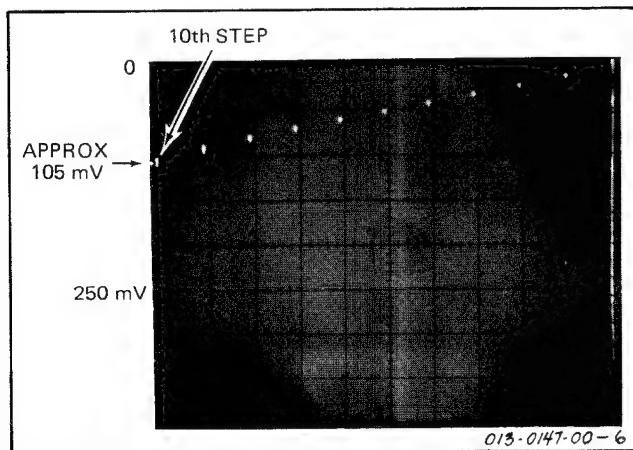

Fig. 5-1. Illustration of step 6, part f.
f. CHECK—Last spot on left (right for Negative Test Unit) is ≤250 mV (≤5 divisions) from the top graticule line. See Fig. 5-1.